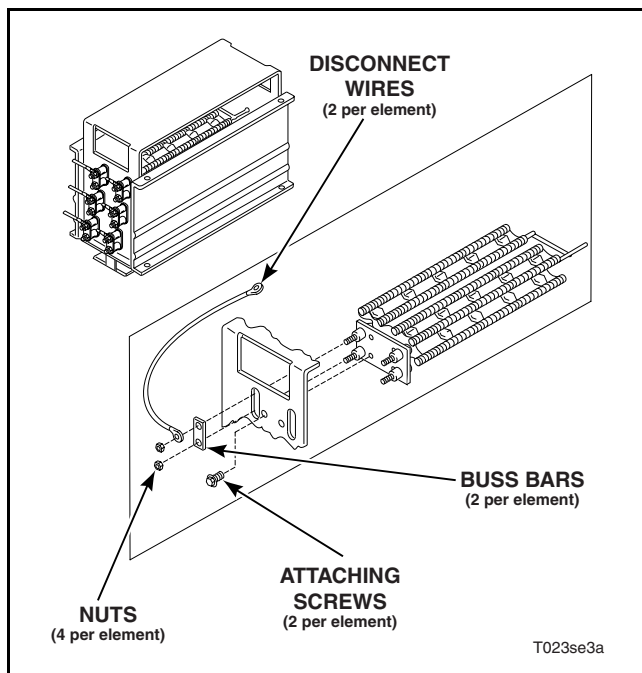

Figure 27
- b. Remove nuts, disconnect wires and buss bars from element terminals. Refer to *Figure 27*.
- c. Remove screw attaching element to rear of heater housing. Refer to *Figure 27*.
- d. Slide element toward front of tumbler and carefully lift element up and out of heater housing. Refer to *Figure 27*.